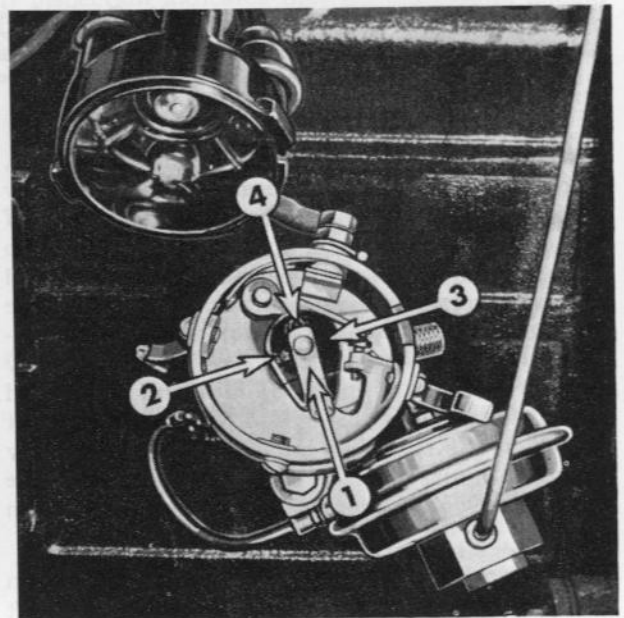

FIG. 164—FIRING POSITIONS — FOUR CYLINDER
1. Remove high-tension wires from the distributor cap terminal towers, noting the order in which they are assembled to assure correct reassembly. No. 1 spark plug terminal tower in the distributor is the lower right hand tower at the distributor cap spring clip, starting with this tower the wires are installed in a counter-clockwise direction 1-3-4-2 on the four cylinder engines as shown in Fig. 164.